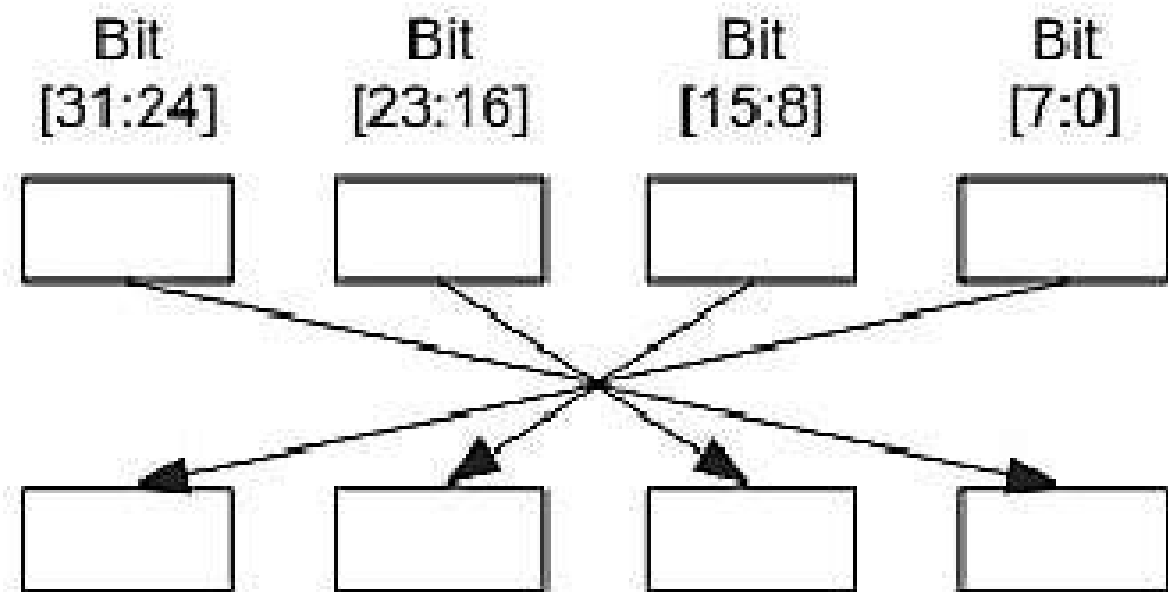

Figure 1: REV operation
1. REV (Byte Reverse in Word, Figure 1),